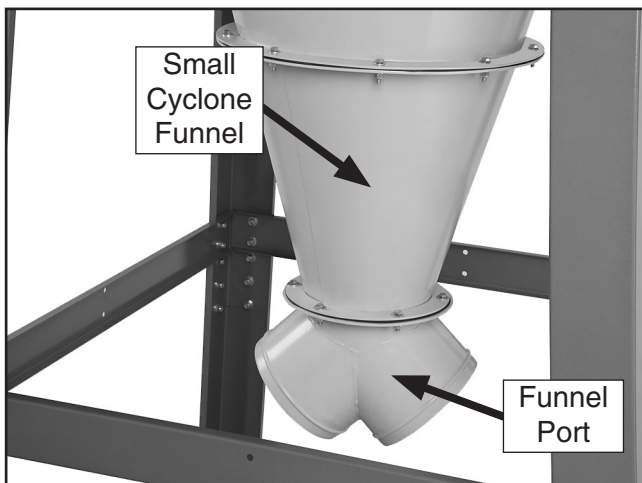

Figure 31. Small cyclone funnel and funnel port attached.
3. Attach the small cyclone funnel and funnel port with (6) $\frac{5}{16}$ "-18 x $1\frac{1}{4}$ " hex bolts, (12) $\frac{5}{16}$ " flat washers, and (6) $\frac{5}{16}$ "-18 hex nuts.
4. With assistance, attach this assembly to the bottom of the large cyclone funnel with (9) $\frac{5}{16}$ "-18 x $1\frac{1}{4}$ " hex bolts, (18) $\frac{5}{16}$ " flat washers, and (9) $\frac{5}{16}$ "-18 hex nuts (see **Figure 31**).